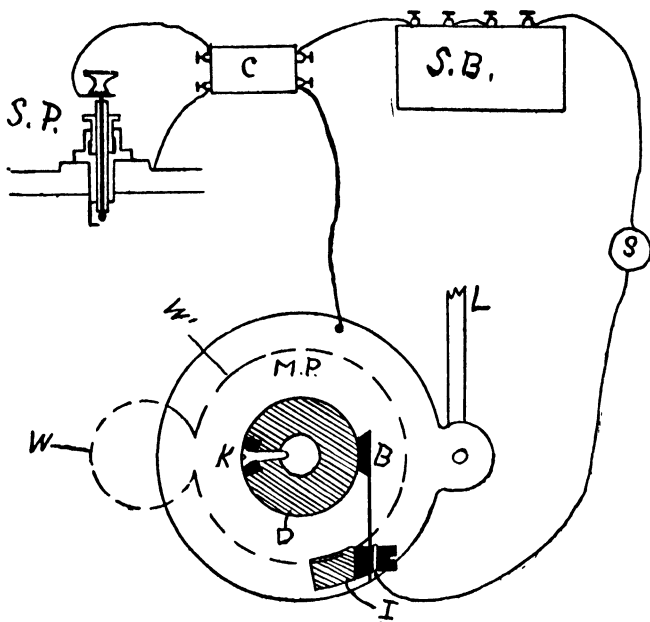

FIG. 79.—A simple ignition-system.
**The Ignition System.**—To produce the spark necessary to ignite the mixture of gas and air two main systems are employed—the *storage battery and induction coil* and the *magneto system*. The construction and action of both the storage battery and induction coil are explained in other portions of this book and it will be assumed that their use is understood. A simple ignition system of the first type is shown in Fig. 79. The main shaft is represented at W and geared to this is the cam shaft W'. The number of cogs on the main shaft is half that on the cam shaft and there-